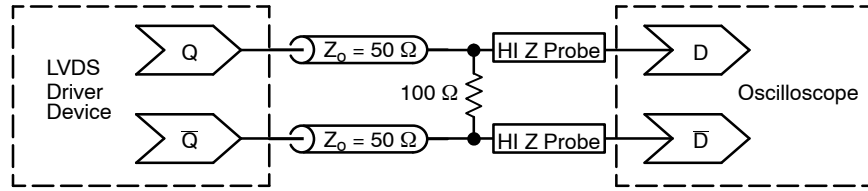

Figure 18. Typical LVDS Termination for Output Driver and Device Evaluation
4. LVDS outputs require 100  $\Omega$  receiver termination resistor between differential pair. See Figure 18.